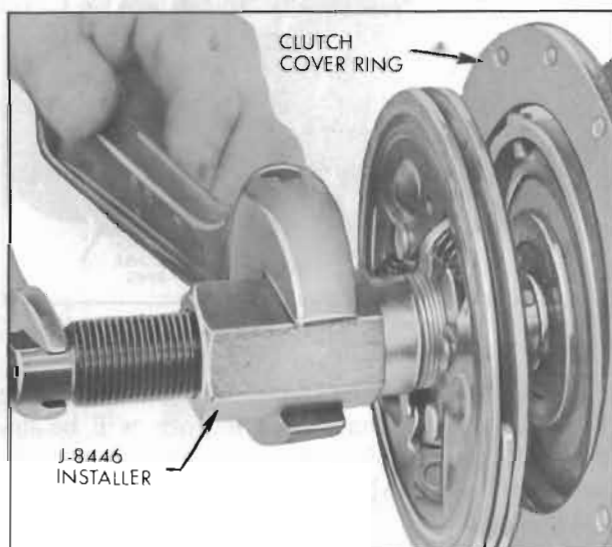

Figure 11-62—Installing Clutch Plates
14. The clutch plate assembly is now ready to be pressed on the shaft, using Tool J-8446. See figure 11-62.